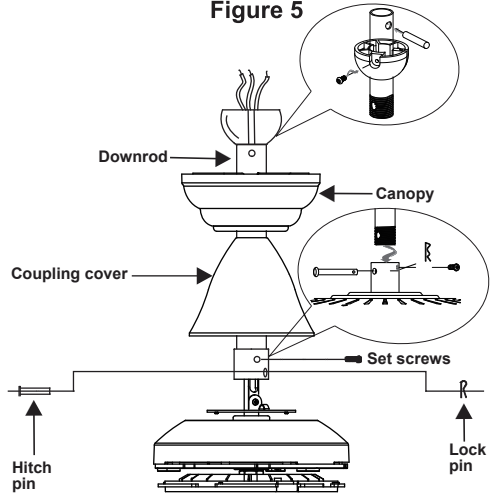

Figure 6
Step 4. Route wires exiting from the top of the fan motor through the canopy, coupling cover and then through the ball/downrod. (Fig. 6)
Step 5. Align the holes at the bottom of the downrod with the holes in the collar on top of the motor housing. Carefully insert the hitch pin through the holes in the collar and downrod. Be careful not to jam the pin against the wiring inside the downrod. Insert the locking pin through the hole near the end of the hitch pin until it snaps into its locked position. (Fig. 6)